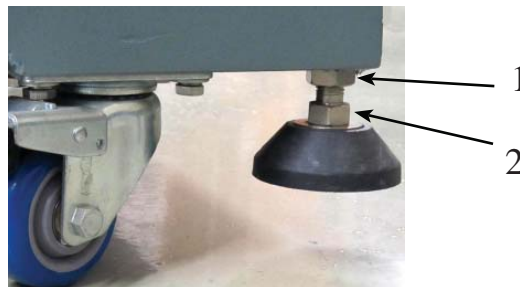

Figure 2-1 Sealing Machine Leveling/Height Adjustment
Refer to Figure 2-1 for the following system leveling/height adjustment procedure. The steps apply to all four (4) feet on the base of the system.
1. Use a spanner to loosen the lock nut (1) at the sealing machine base.
2. Use a spanner to turn the nut on the height adjustment screw (2). When the sealing machine is at the required height, tighten the lock nut (1) up to the base of the machine.